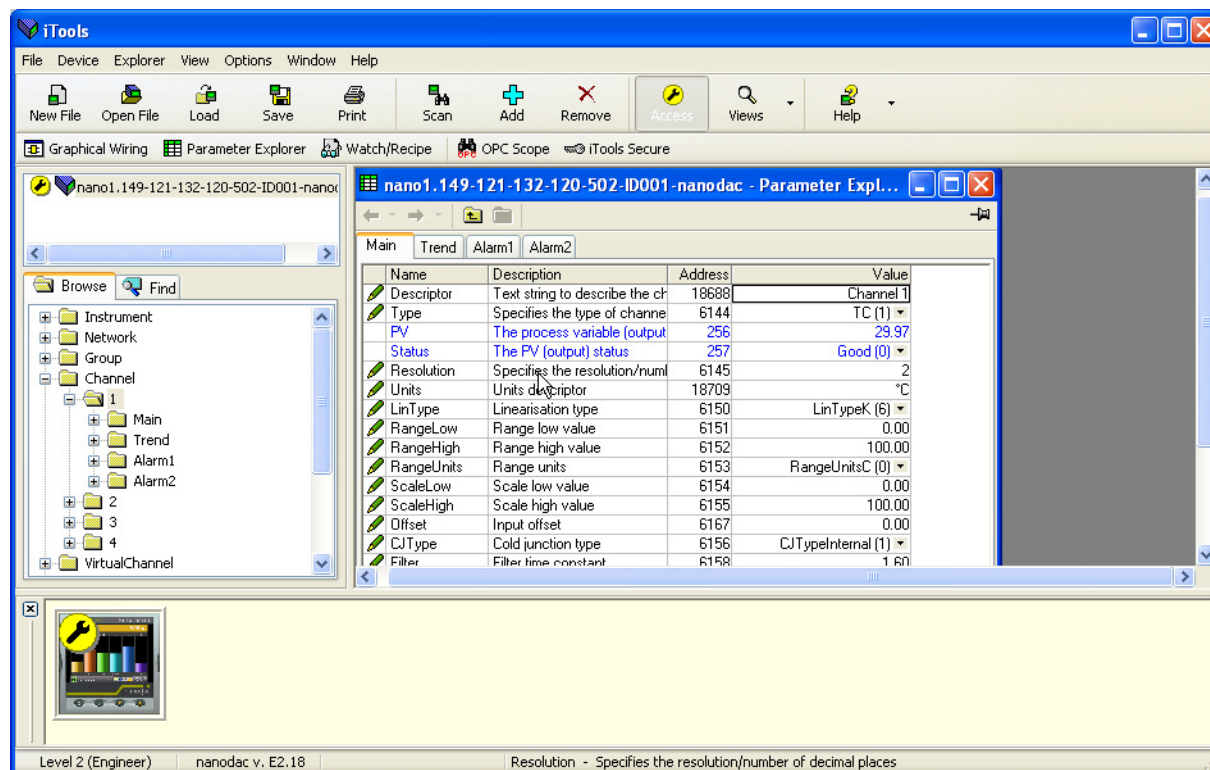
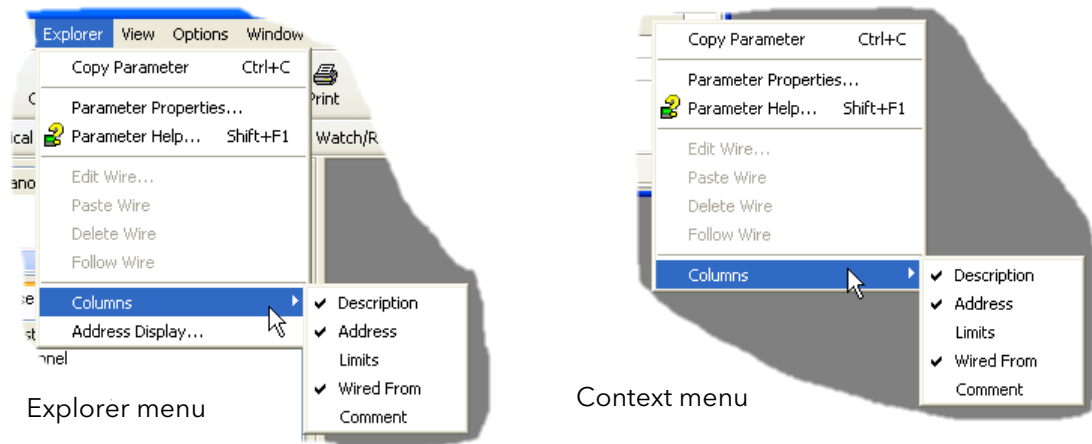

Figure 6.4a Parameter table example
Figure 6.4b Column enable/disable
In each case the function block parameters appear in the iTools window in tabular form, such as the example in figure 6.4a, below.
The figure above shows the default table layout. Columns can be added/deleted from the view using the 'Columns' item of the Explorer or context menus (figure 6.4b).
2. Columns. The default explorer window (figure 6.4a) contains the columns 'Name', 'Description', 'Address', 'Value', and 'Wired From'. As can be seen from figure 6.4b, the columns to be displayed can be selected, to a certain extent, using either the 'Explorer' menu or the context menu.